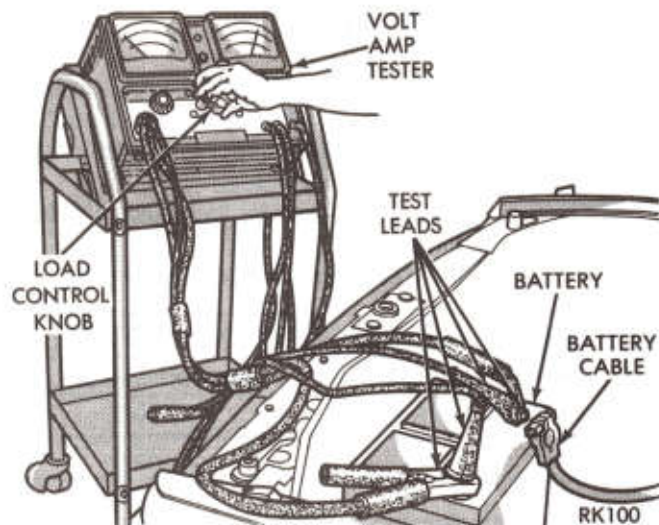

Fig. 9—Battery Load Test
(3) Apply **300 amp** load for 15 seconds to remove surface charge from battery (Fig. 9). Remove load.